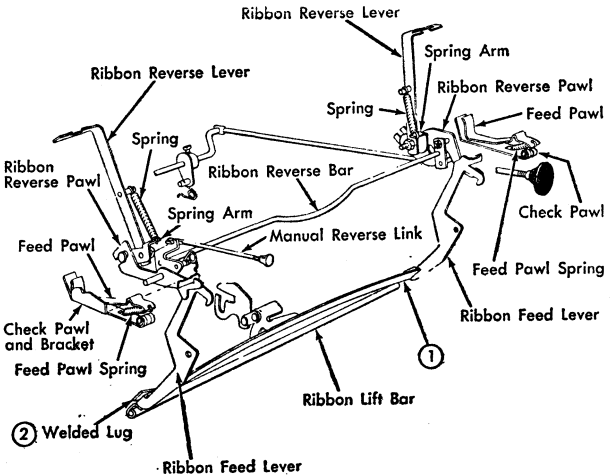

Figure 40. Ribbon Feed Mechanism
the rotation and holds the reverse bar in position until another reversing action takes place (Figure 40).
will be a minimum of clearance between the ribbon lift bar and the ribbon feed levers. To check this adjustment, hold a type bar against the platen and observe that the feed pawls can be moved slightly farther before they choke off. Check with type bars at both ends and at the center of the basket (Figure 40).
2. THE WELDED LUG on the ribbon lift bar should be formed so that it just touches the ribbon feed lever lug when the ribbon lift bar is in the rest position. Check the movement of feed pawls to ascertain this clearance (Figure 40).